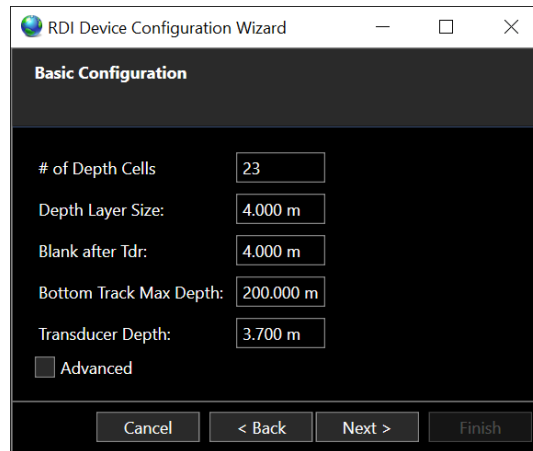

FIGURE 18-10 RDI DEVICE CONFIGURATION - BASIC CONFIGURATION
- III. Basic Configuration , this allows the user to set the following (see Figure 18-10)